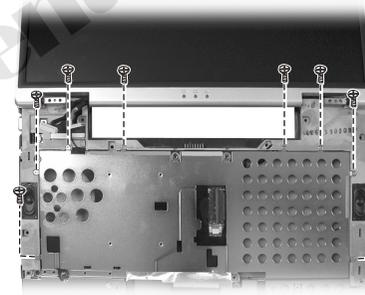

Figure 2-22 Remove the eight screws
7. Remove the eight screws. (Figure 2-22)